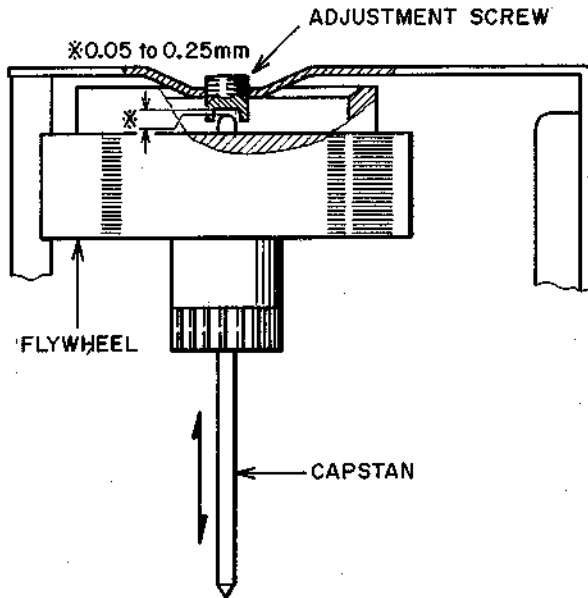

Fig. 5 Flywheel Loose Adjustment
1. FLYWHEEL LOOSE PLAY ADJUSTMENT (Refer to Fig. 5)